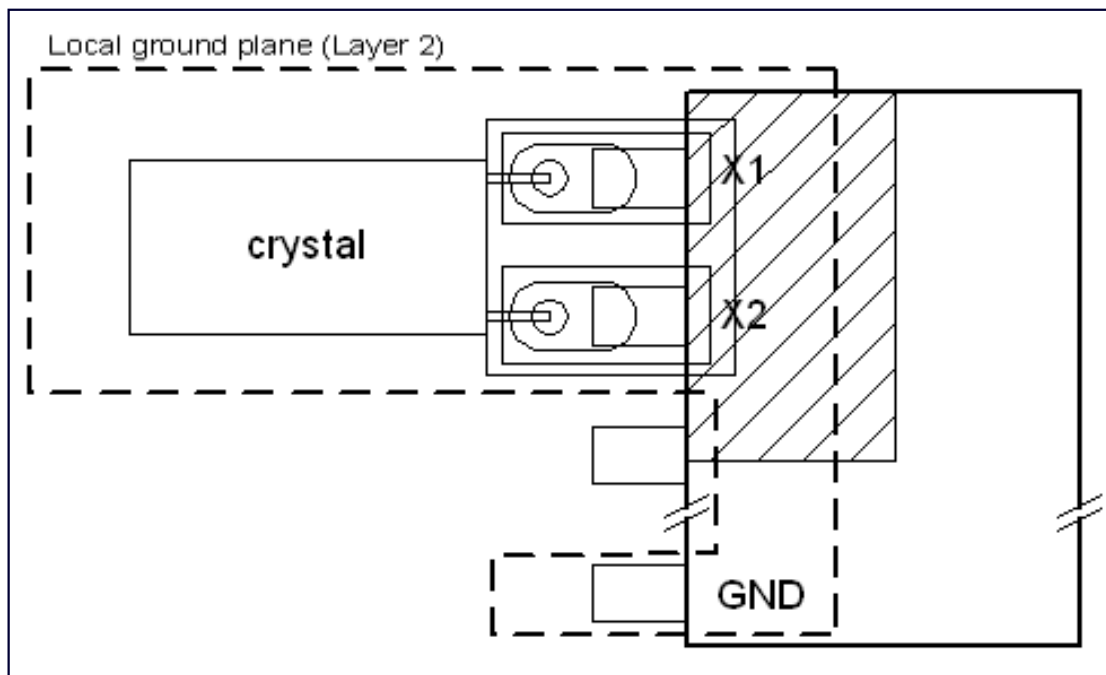

Figure 5. Recommended Layout for Crystal
5. It may also be helpful to place a local ground plane on the PC board layer immediately below the crystal. This helps to isolate the crystal from noise coupling from signals on other PC board layers. Note that the ground plane needs to be in the vicinity of the crystal only and not on the entire board. See Figure 5 for an illustration of a local ground plane. Note that the perimeter of the ground plane does not need to be larger than the outer perimeter of the guard ring.